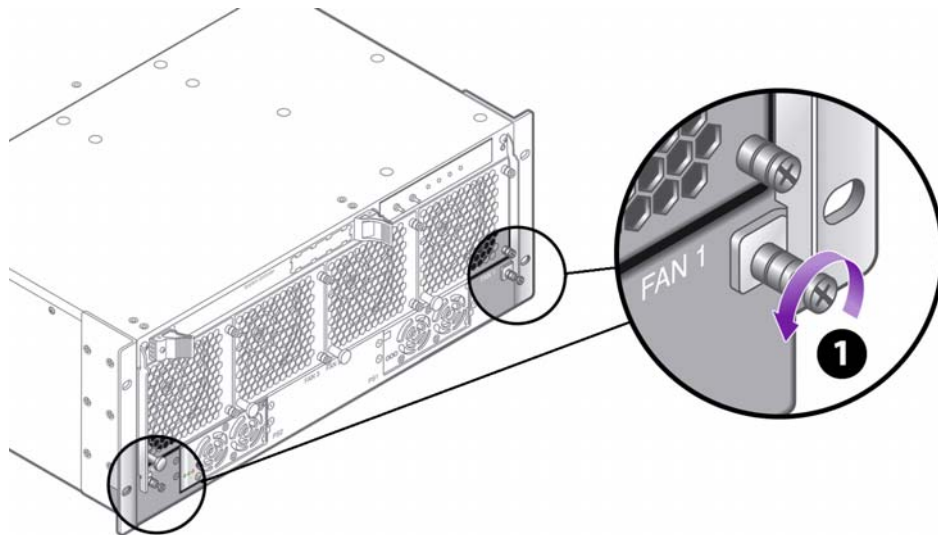

Figure 1 Loosening the Fabric Interconnect F1-15 Front Panel Assembly Screws
- Step 2** Using the screwdriver, release the two spring-loaded screws (1) securing the release levers to the chassis. See Figure 1.
- Step 4 Using the screwdriver, tighten the two spring-loaded screws securing the release levers to the chassis. This step is the reverse of Figure 1. *Do not overtighten the screws!*